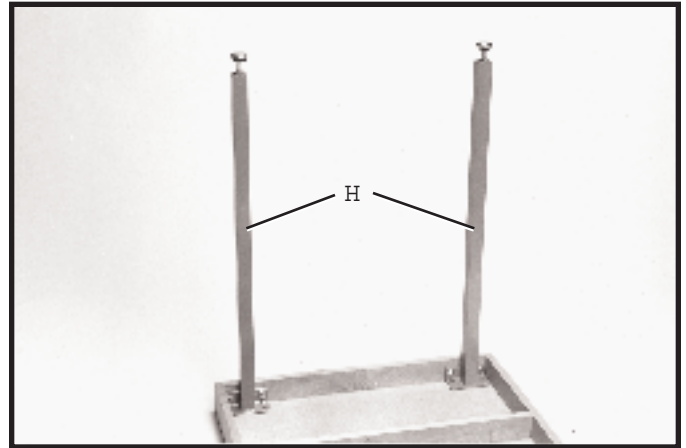

Fig. 13
11. Figure 13 illustrates the two legs (H) assembled to the bottom of the table.